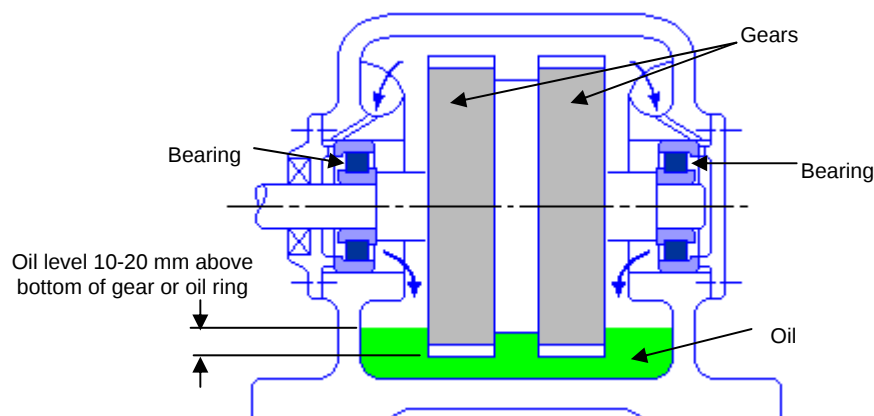

Figure 6.25: Splash Lubrication
- splash lubrication—oil is splashed onto the bearings by a ring that hangs from the shaft or by gears. These dip into the oil. (**Fig. 6.25**). The oil then drains back to the bottom of the housing. Too much oil causes drag on the oil ring or gears affecting lubrication and possibly the operation of the equipment.